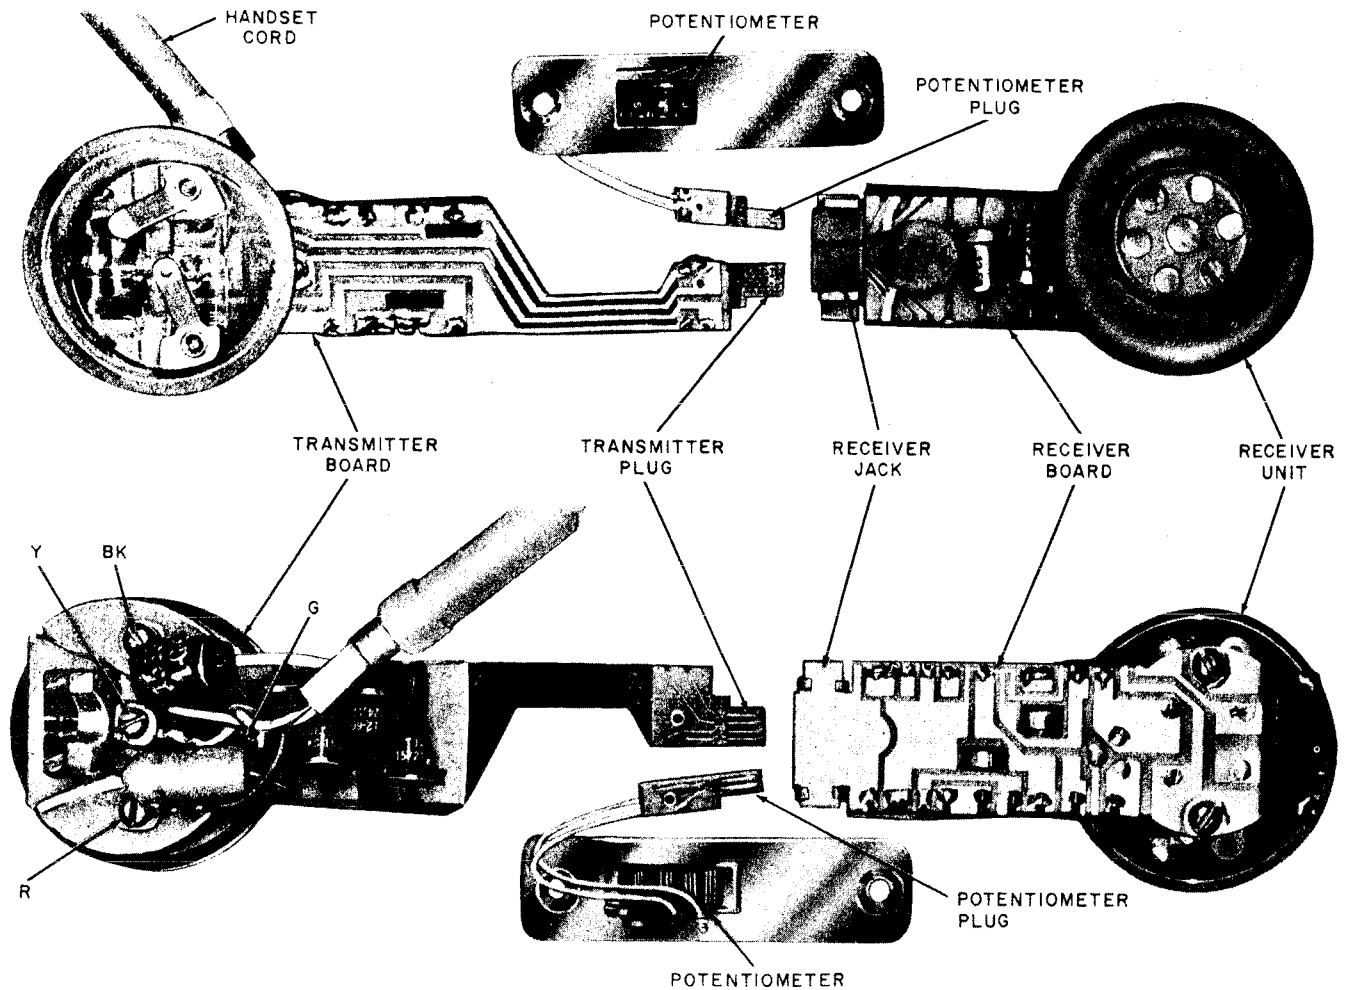

Fig. 1 — G6AR Handset (MD), Internal Assembly
**2.03** The G6AR handset, rated Manufacture Discontinued (MD), consists of a printed circuit receiver board, transmitter board, and a potentiometer assembly mounted in the handle. Internal connections are made by a flexible circuit strip and plug-in connectors (Fig. 1).